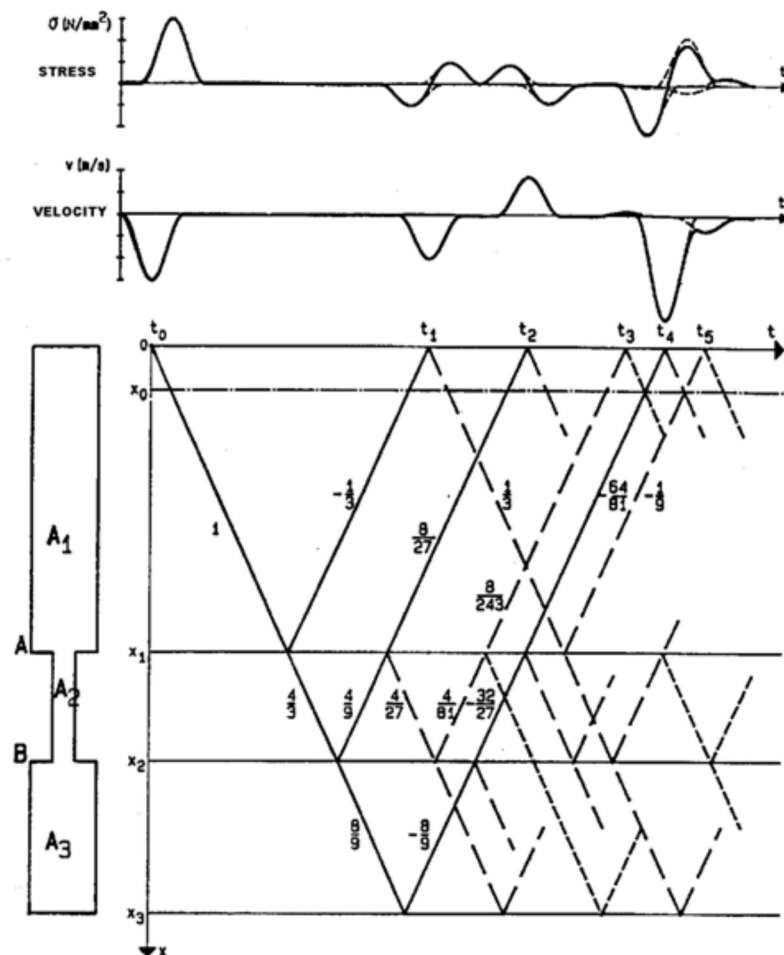

Figure 3:
Figure 3 shows the characteristics for a rod with a reduced cross-section. The figures besides the lines are the respective stresses, calculated from equations (5) and (6).
Using the method of characteristics, we can draw a graph showing the velocity at the top of the pile versus time. Such a graph (Figure 3) is called a *reflectogram*.